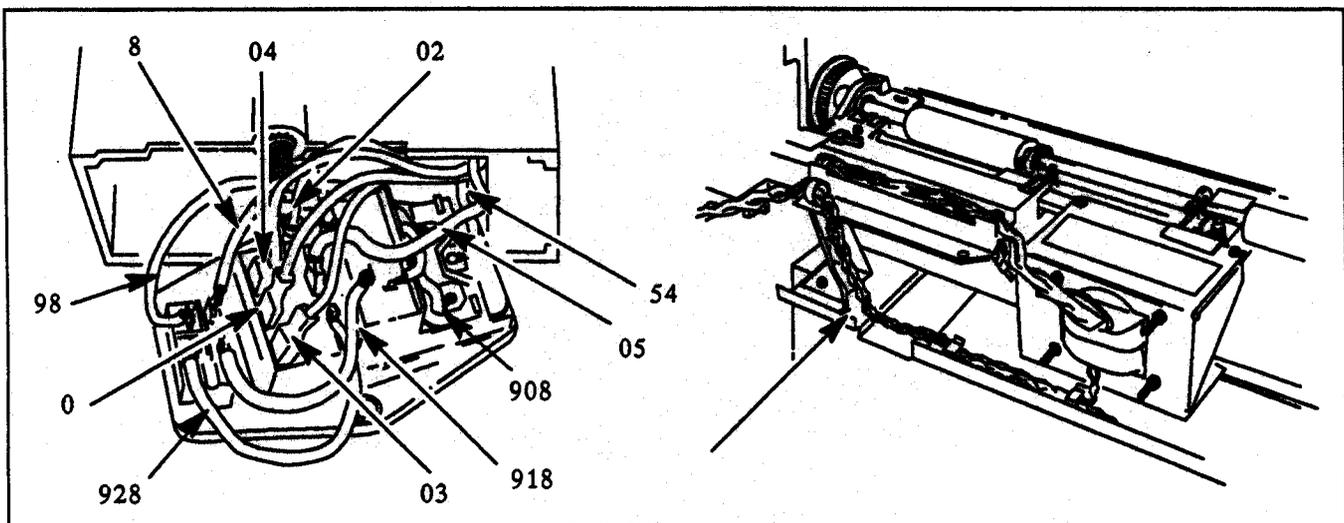

Figure 6-32. Ac Power Module Removal
- h. Note the orientation of the primary lead hook up to the power module. Disconnect the transformer primary leads from the ac power module. See Figure 6-32.
- i. Remove the 1/32 in. nut securing the ground wire from the power module to the chassis. See Figure 6-32.